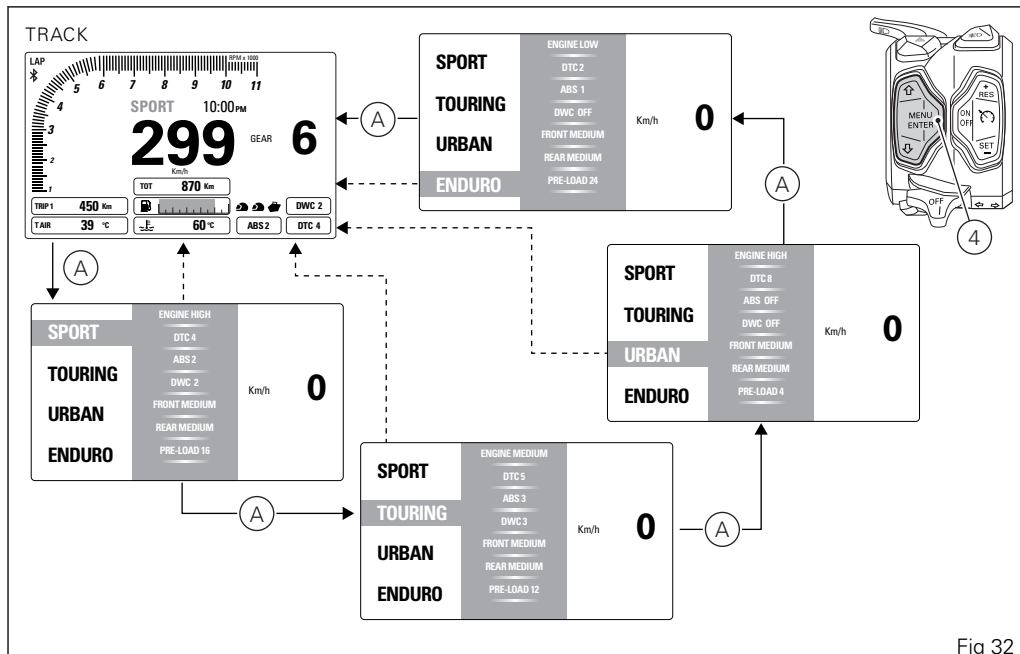

Fig 32
The displayed information are the settings stored in every single Riding Mode. The stored settings may be the factory ones (Ducati default settings) or the ones customized by the owner. Any time the CONFIRM MENU button (4) is pressed, you highlight a riding mode and the associated parameters are displayed (A, Fig 32).